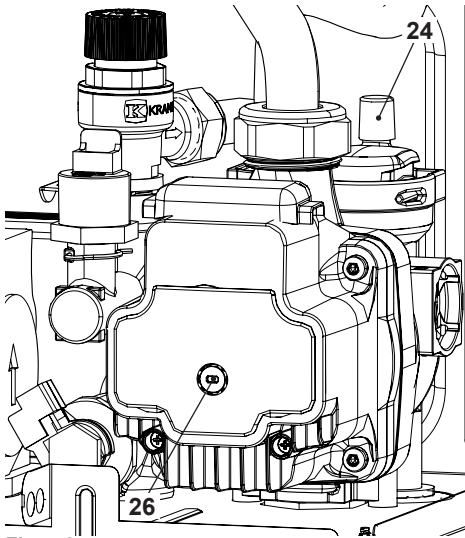

Fig. 7.2
- Loosen the cap on the automatic air purger valve 24 in Fig. 7.2 and leave open permanently.
- Purge the air from the pump by unscrewing the pump plug 26 (Fig. 7.2); release the pump shaft by turning in the direction indicated by the arrow on the information plate.